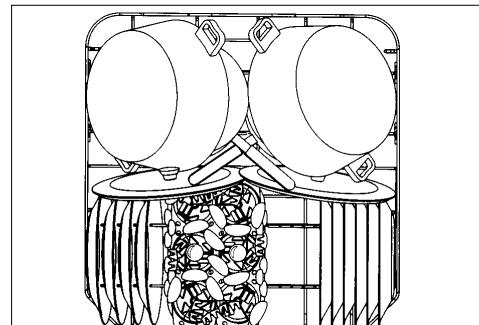

fig. 9
**Loading the lower basket (see fig. 9)**